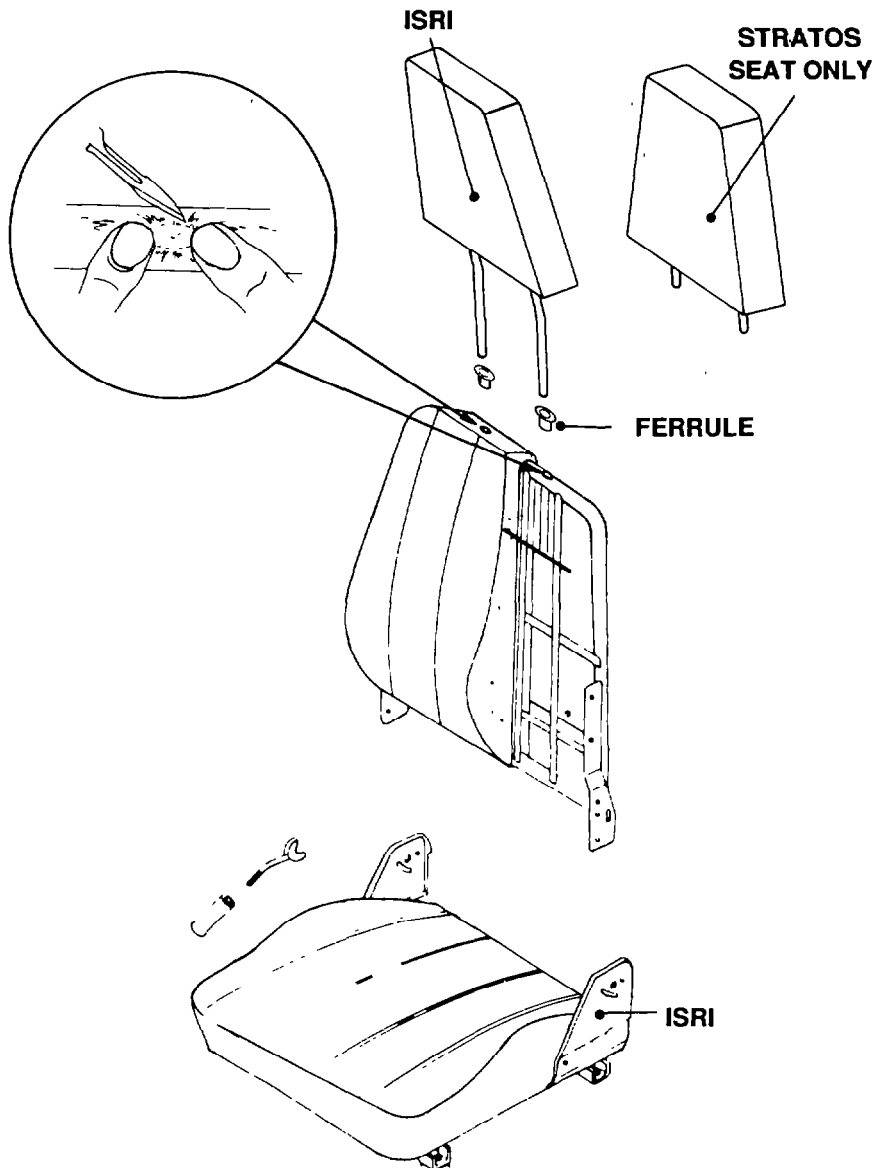

FIG 5 - FITTING OF HEAD RESTRAINTS
9. There are two types of head restraints suitable for either the ISRI or Stratos manufactured seats. The ISRI seat is identified by letters 'ISRI' marked on the seat squab back pivot plate as detailed in Fig 5., the Stratos seat does not have a pivot plate or markings.
- a. In both seat types there are two vertical tubes located beneath the vinyl trim in the seat squab back as shown in Fig 5.
- b. Locate the tubes by feeling for them beneath the vinyl and when located carefully cut vinyl with a sharp instrument to expose the apertures as shown in Fig 5.